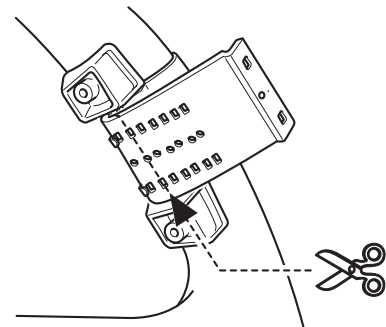

Fig. 14
2. Cut the extra portion of the belt at the center of the inner holder. (Fig. 14)